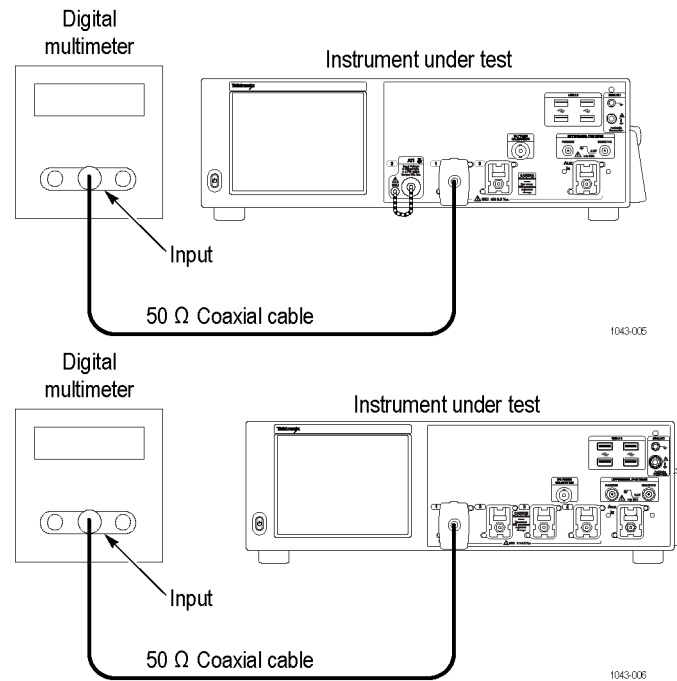

Figure 23: Input resistance test hookup
- d. *Hook up the test-signal source:* Connect, through a 50 Ω precision coaxial cable, the input of the multimeter to **Ch 1** through adapters. (See Figure 23: Input resistance test hookup on page 127.)